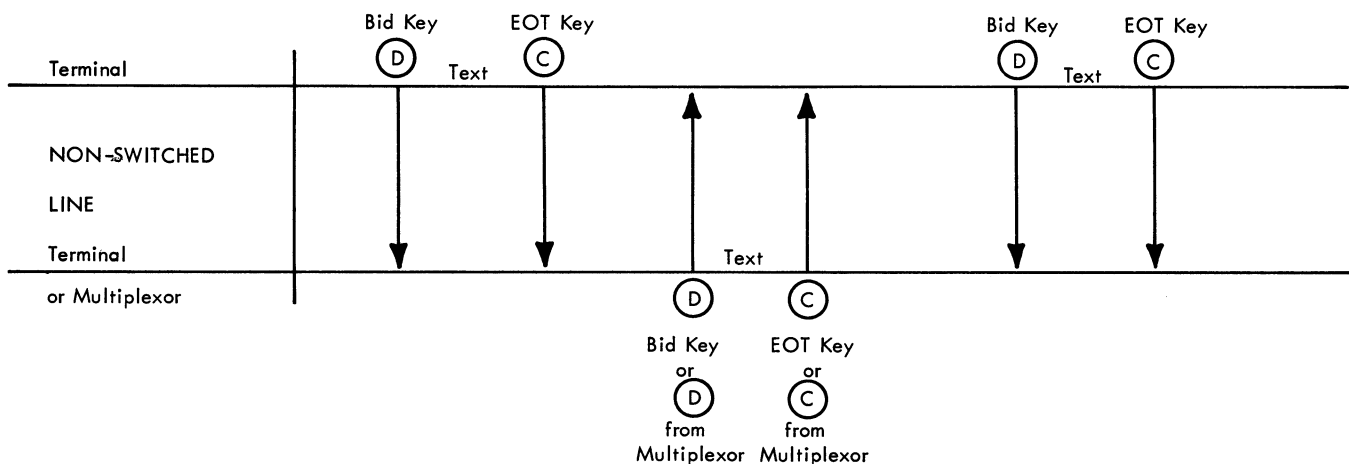

Figure 5. Point-to-Point Operation (No Special Features)
This section covers the operation of the basic IBM 2740 Communication Terminal Model 1, without any special features, and then with special features installed. The communication line operations required for each are shown in Figures 5 through 15. A detailed description of operating procedures is included in the IBM 2740/2741 Communication Terminal--Operators Guide, Form A27-3001.
This operation is performed on a contention basis, which means that both terminal operators independently attempt to acquire the line by pressing the Bid key (Figure 5). The first terminal acquiring the line retains control of this line until its EOT key is pressed. (Refer to Transmission Controls and Indicators, Model 1 in this section of manual, for a complete explanation of these keys.) When a terminal acquires the line, the other terminal automatically switches to a receive status and its keyboard is locked. This terminal remains in the receive status until an EOT code is received.
- Press the Bid key. This transmits a \textcircled{D} signal to the other terminal on the line (Figures 5 and 6). Upon receipt of the \textcircled{D} signal, the receiving terminal automatically switches to receive status provided the terminal was originally in standby status. This change to receive status causes the keyboard to remain locked and the terminal motor to be turned on. If this terminal is operating in local mode or is not in standby status when the \textcircled{D} signal is received, an audible alarm is automatically sounded at the terminal.
- Receipt of the \textcircled{D} signal switches this terminal to receive status (Receive light on, keyboard locked, and motor turned on). The terminal remains in this status until an EOT signal is received (see Figures 5 and 6). However, if this terminal runs out of paper while receiving, or drops status for any other reason, it switches to a no status condition (all status lights off, keyboard locked, and still in communicate mode). Until this condition is corrected (by inserting paper or deactivating the paper presence contact) and the line connection is re-established, the terminal is unable to receive any further transmissions. Thus, a procedural requirement providing for message retransmission when this occurs should be established for each system.
Press the Bid key. This transmits a (D) signal to the multiplexer (Figures 5 and 6). This signal causes the multiplexer to automatically switch to a receive status. Once the terminal acquires the line through use of the Bid key, it automatically switches to a transmit status. In conjunction with this, the transmit light is turned on, the keyboard is unlocked to permit the transmission of text, and the terminal motor is turned on. The terminal can now transmit a message (or messages) of any length and retain control of the line until it transmits an EOT (C) signal. Press the EOT key. This transmits a (C) signal to the multiplexer and places the terminal in a standby status. The Standby light at the terminal is turned on, the keyboard is locked (except for the Bid key and EOT key), and the motor is turned off.
The multiplexer initiates a transmission by placing a (D) signal on the communication line, which causes the terminal to switch from a standby status to a receive status (Figures 5 and 6). The Standby light turns off, the Receive light turns on, the keyboard is locked, and the terminal motor is turned on.
Press Data button on terminal data set and place receiver in cradle. The Dial-Connect light will be on indicating the line is connected and the terminal is in a standby status. From this point on, the operation of the terminal is the same as a terminal-to-multiplexer operation without the dial-up feature (see "Point-to-Point Operation--Multiplexer and Terminal" in this section of manual and Figures 5 and 6). While the terminal is in a receive or transmit status the Dial-Connect light is off, even though the line is still connected. The light turns on again when the terminal switches to a standby status.